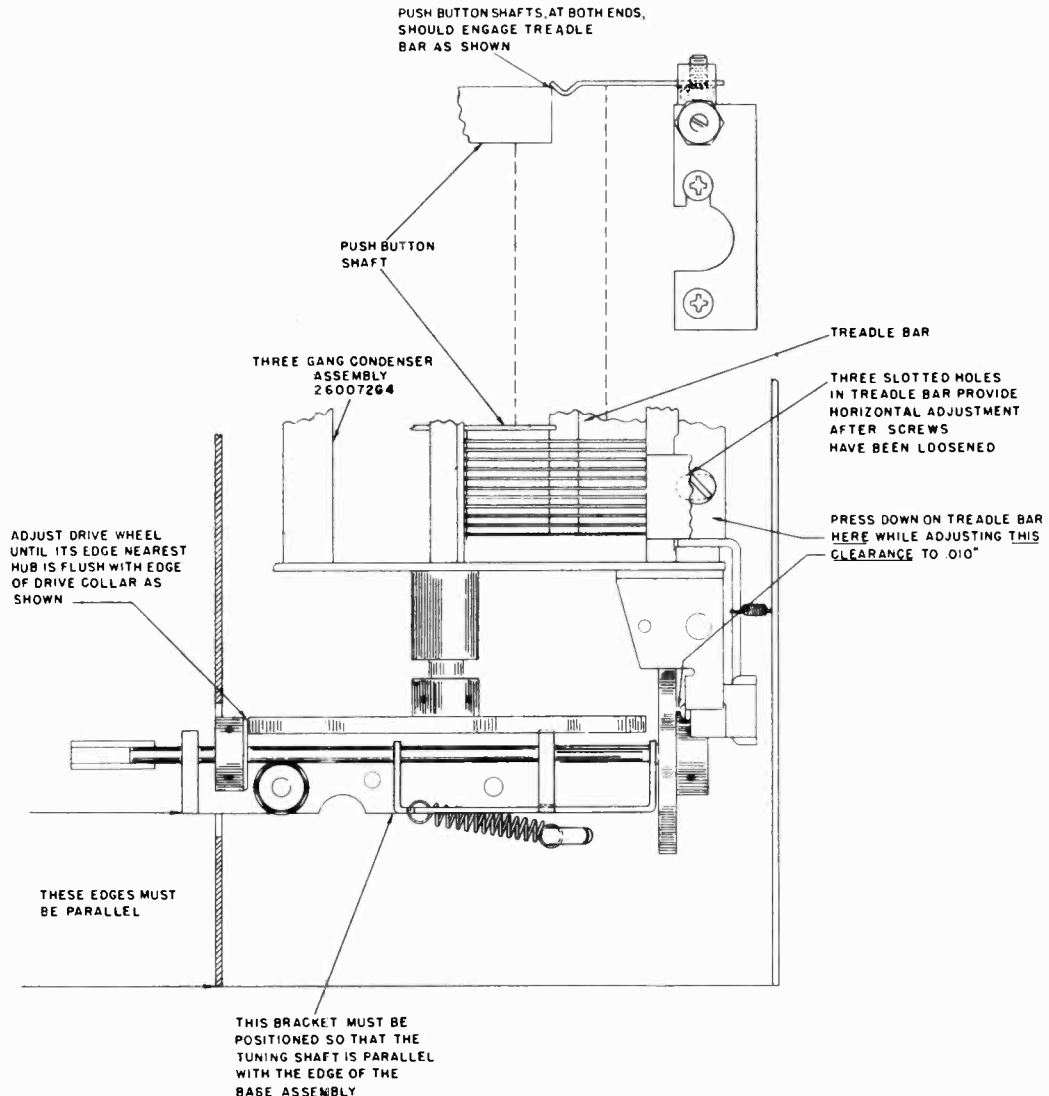

FIGURE 3
1. Assemble the Tuning Shaft, Drive Collar, Compression Spring and Flywheel in the order shown on Figure 3. The distance between the front of the Drive Collar and the front of the Tuning Shaft must be  $\frac{1}{8}$
3. The Drive Wheel is properly located on its shaft when its edge nearest the hub is in line with the outside edge of the Drive Collar as shown on Figure 3. Two Allen set screws in the Drive Wheel hub provide a means of adjusting the position of this wheel.
5. If the push button shafts at both ends do not engage the Treadle Bar as shown on Figure 3, the three screws in the Treadle Bar must be loosened and the Treadle Bar should be moved until the required condition is obtained.